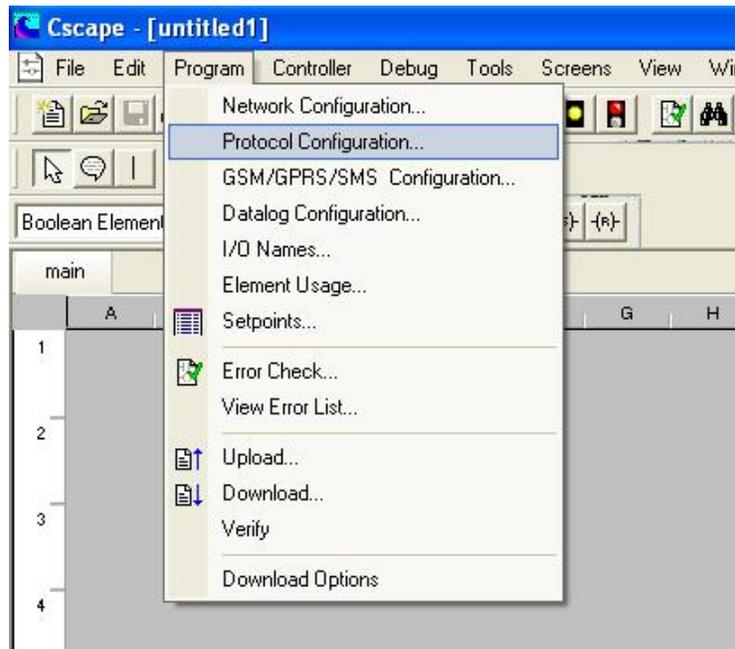

Fig.1
2. Select: **Program/Protocol Configuration** (Fig.1)